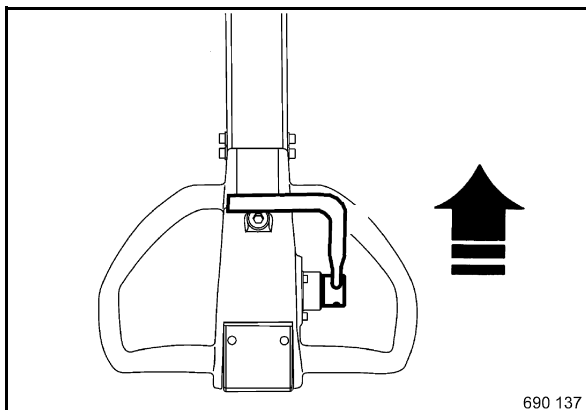

Fig. 63
- Shift the travel lever forward against the stop (Fig. 63).